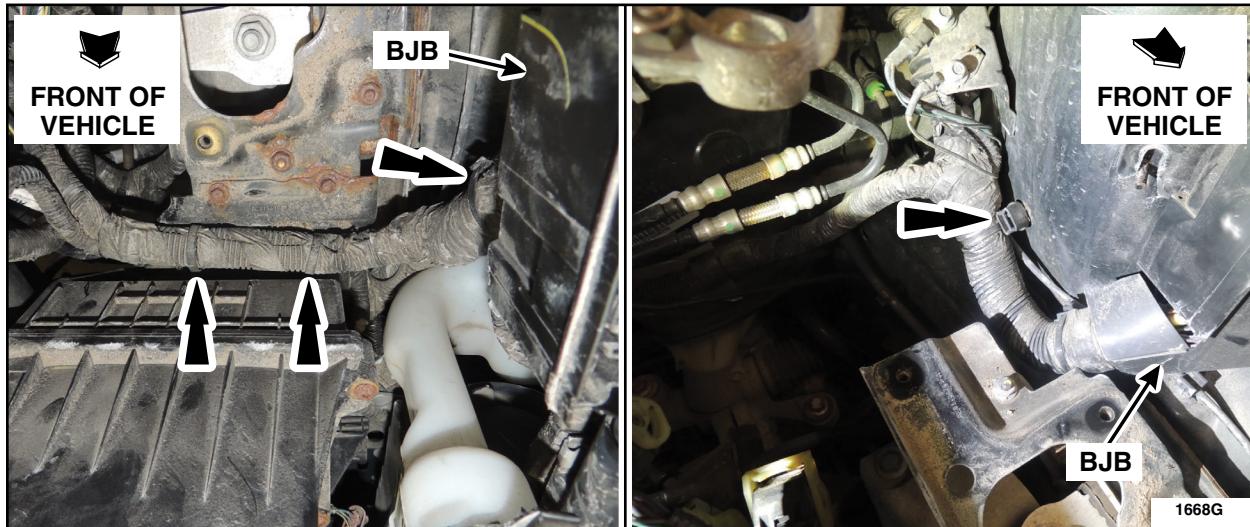

FIGURE 4
5. Disconnect the BJB harness retainers and position the BJB towards the engine to allow access to the bottom portion of the BJB for terminal replacement. See Figure 4.
7. Reposition the BJB and connect the harness retainers. See Figure 4.